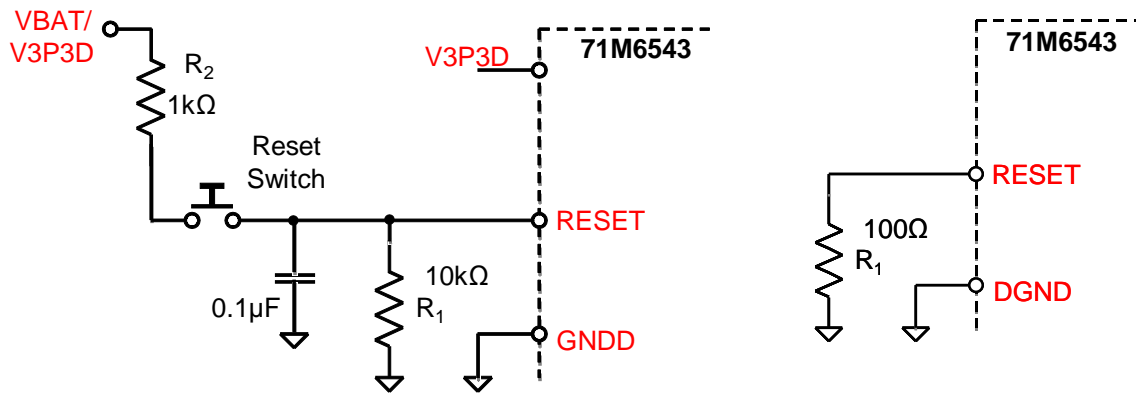

Figure 36: External Components for the RESET Pin: Push-Button (Left), Production Circuit (Right)
Even though a functional meter does not necessarily need a reset switch, it is useful to have a reset pushbutton for prototyping as shown in Figure 36, left side. The RESET signal may be sourced from V3P3SYS (functional in MSN mode only), V3P3D (MSN and BRN modes), or VBAT (all modes, if a battery is present), or from a combination of these sources, depending on the application.
- ✓ For a production meter, the RESET pin should be protected by the external components shown in Figure 36, right side. R1 should be in the range of 100Ω and mounted as closely as possible to the IC.
Since the 71M6543 generates its own power-on reset, a reset button or circuitry, as shown in Figure 36, is only required for test units and prototypes.